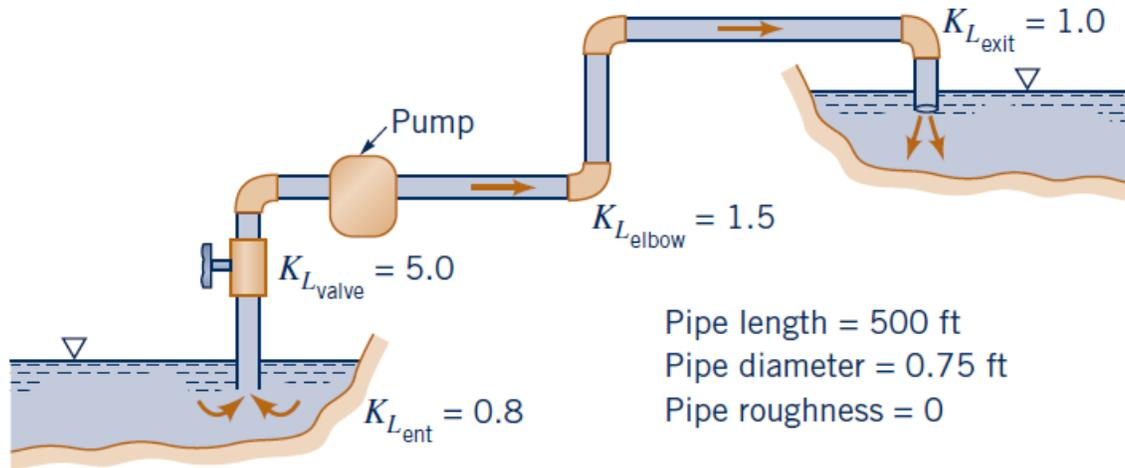

Fig. 5
8. The pump shown in Fig. 5 delivers a head of 250 ft to the water. Determine the power that the pump adds to the water. The difference in elevation of the two ponds is 200 ft.